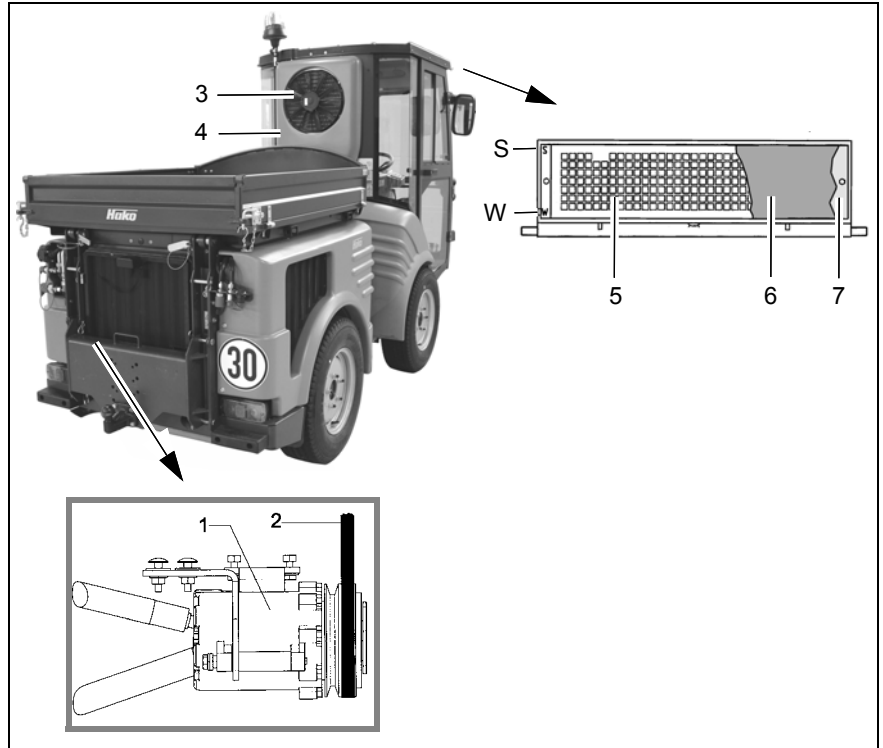

Fig.56
Check the cabin air filter (Fig. 56/6) every week for contamination, or more often after dusty deployments. The filter is dismantled as follows:
3. Loosen the four attachment screws for the protective screen (Fig. 56/5) and remove it.
4. Remove the cabin air filter (Fig. 56/6) and clean it or, if necessary, replace it.
Insert the punched plate (Fig. 56/7) behind the filter mat (Fig. 56/6) in such a way that the mark points to the “S”.
Insert the punched plate (Fig. 56/7) behind the filter mat (Fig. 56/6) in such a way that the mark points to the “W”.
Check the condenser (Fig. 56/3) for the air-conditioning system after every 250 hours of operation for contamination and clean it, if necessary.
4. Loosen the attachment screws for the cover (Fig. 56/4) at the top and the bottom.
Check the v-belt for the air-conditioning unit (Fig. 56/1) after every 250 hours of operation as described below
4. Check the v-belt (Fig. 56/2) for condition and tension and, if necessary, retighten or replace.